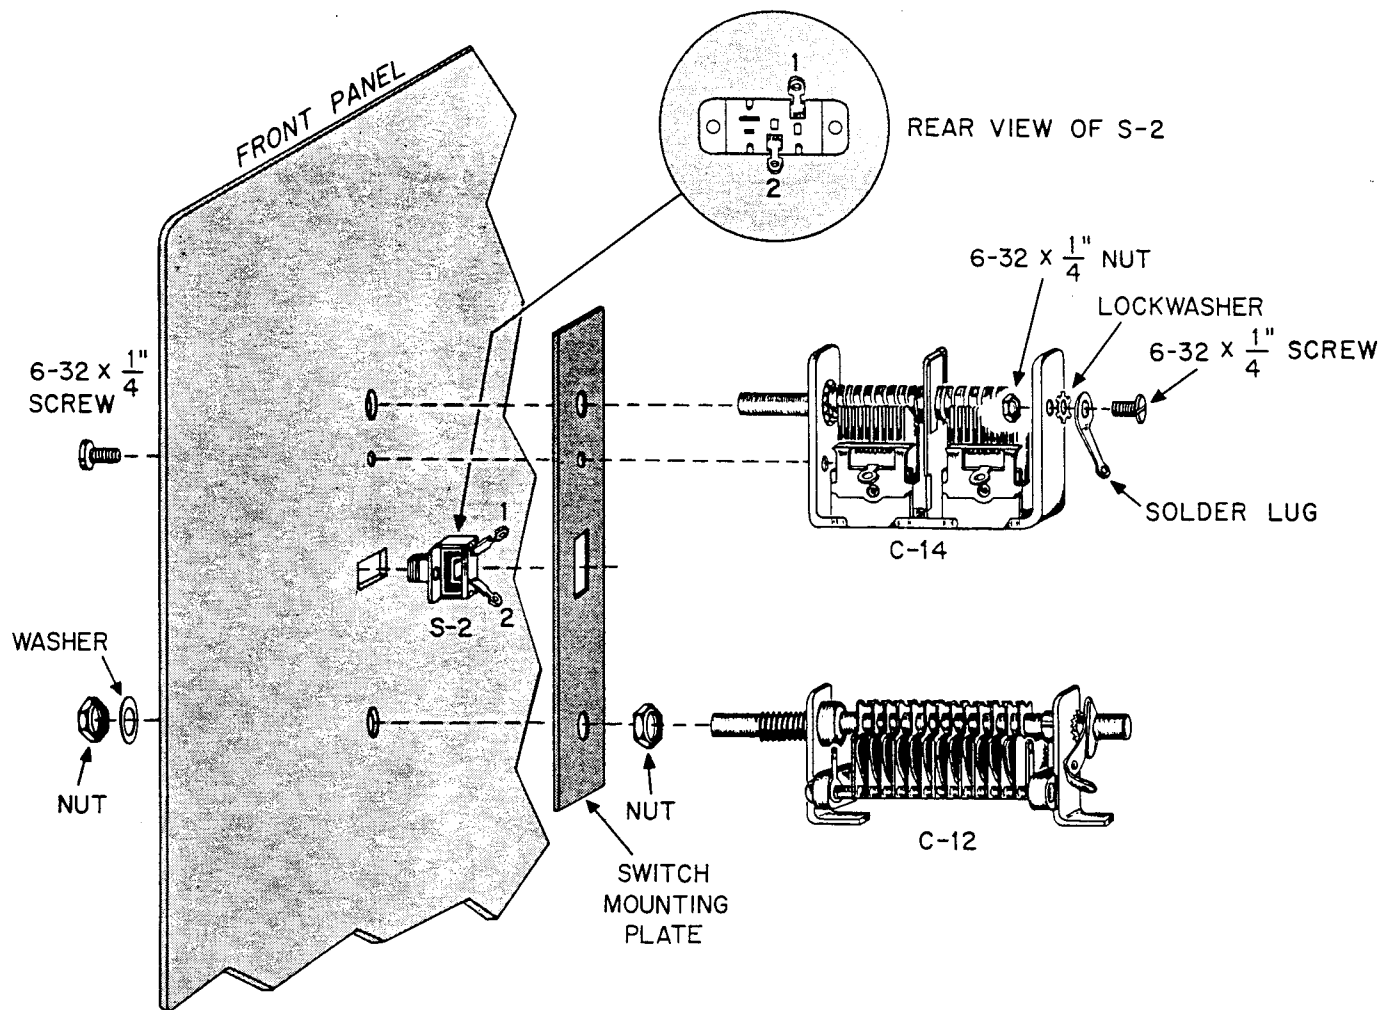

FIGURE 7. HOW TO MOUNT C-14, S-2 AND C-12
- ☐ Study Figure 7. Mount C-14, C-12, S-2 and the switch mounting plate as shown in Figure 7. Note that the terminals of S-2 are positioned toward the center of the chassis.
- ☐ Mount a solder lug on the back of C-14 using a lockwasher, one 6-32x $\frac{1}{4}$ " screw, and a matching nut. See Figure 7 for the location.